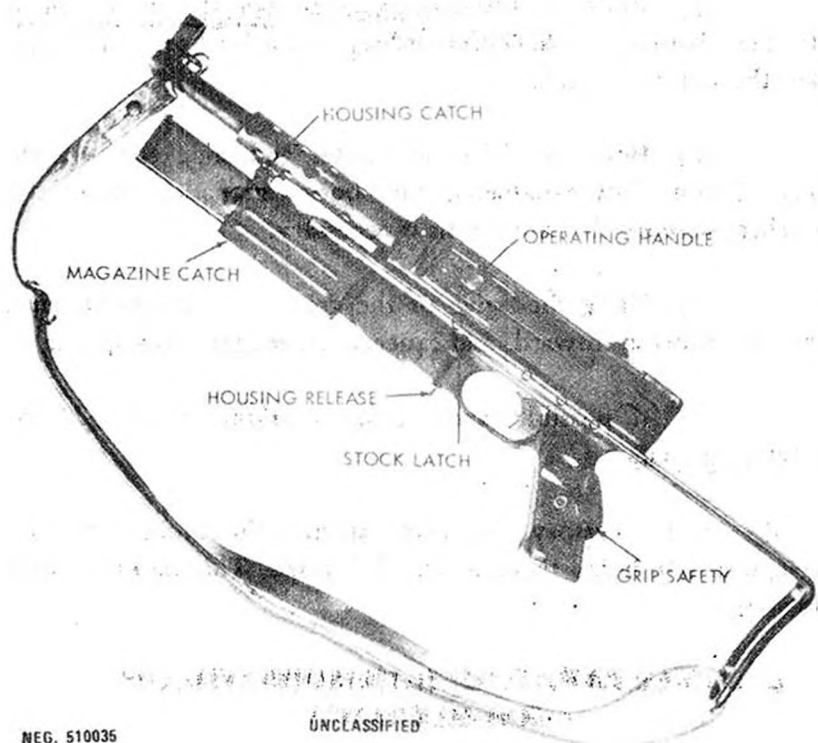

Figure 36. French M.A.T. 49 submachinegun.
(1) Open the bolt and place the special blank cartridge into the chamber. (CAUTION: Never use a bulletted cartridge.) Place the selector on safe.
(2) Hold the UZI horizontal and slide the grenade (only 22-mm inside-diameter tail boom grenades) onto the launcher. Remove the safety pins if necessary.
(3) Using the ogive of the grenade as the sight, aim, press the selector forward, and squeeze the trigger and grip safety.
(4) If possible, avoid using a folding stock UZI for launching grenades.
a. The French 9-mm M.A.T. Model 1949 submachinegun (fig 36) is standard in the French Army and in many of the armies of former French colonies. These guns are also used by the Viet Cong and other guerrilla forces in Asia and Africa.
b. If the magazine housing is folded forward, press the housing catch (fig 36) and swing the magazine housing down until it is vertical and until the release located on the underside of the trigger housing (fig 36) engages the magazine housing. Insert the loaded magazine into the housing until it is caught by the magazine catch. Depress the grip safety and pull the operating handle (fig 36) to the rear; then push the handle back to its forward position. CAUTION: The gun is now ready to fire.
d. There is no manual safety, as such, on this weapon, but the magazine and its housing can be swung forward under the barrel (fig 36). This action, which is the only manual safety feature, also renders the gun more compact. Press the release under the trigger housing and swing the housing and magazine forward until the housing catch locks to the bracket under the barrel jacket. The magazine and housing must be swung into position before firing (para b above).
e. Press the stock latch (fig 36) and slide the stock to either the opened or closed position.
g. Remove the magazine by depressing the magazine catch (fig 36) and pulling the magazine straight out of the magazine housing.